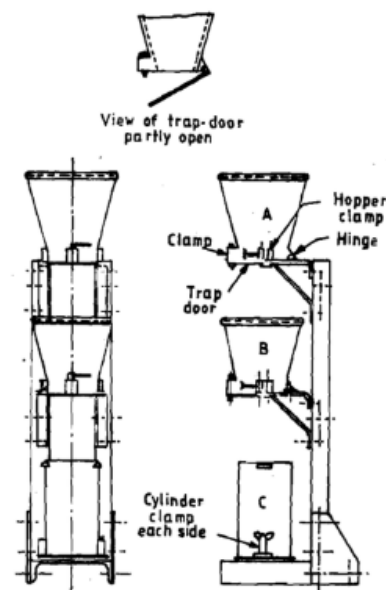

Fig.6.2 Compaction Factor Test
6.2 Determine the workability of concrete by compaction factor test, consists essentially of applying a standard amount of work to standard quantity of concrete and measuring the resulting compaction as shown in Fig.6.2.